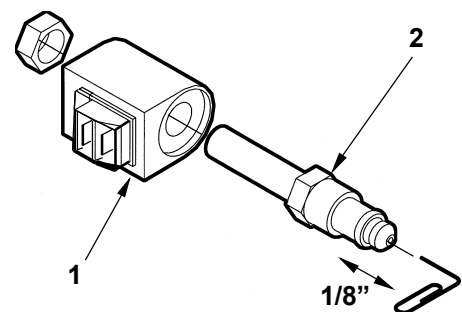

FIG. 11
4. Check the Valve Stem by removing the Coil Assembly (**Item 1, FIG. 11**). With platform supported, unscrew the Valve Stem (**Item 2, FIG. 11**) from the Pump. Push on the plunger located inside the Valve Stem by inserting a paper clip in the end. If the Plunger does not move freely (approximately 1/8") replace the Valve Stem.